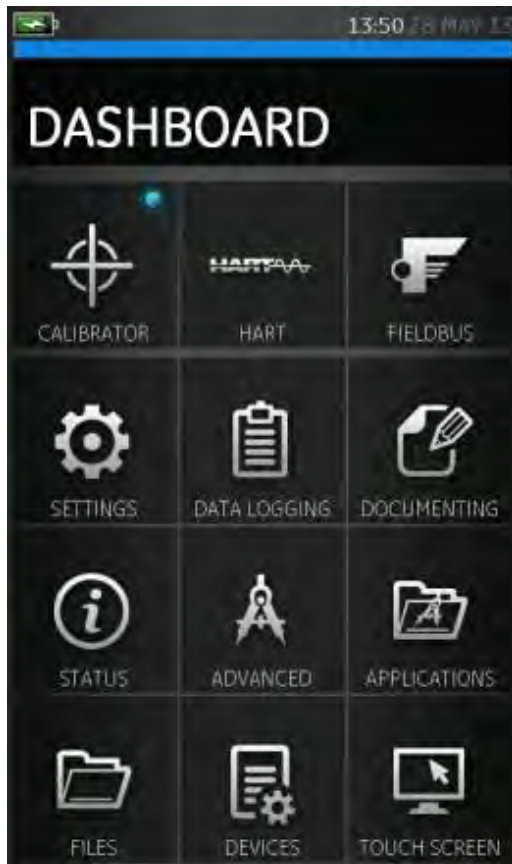

Figure 1-3
1.13 Druck DPI 620 Genii, Modes (Ref Figure 1-3)